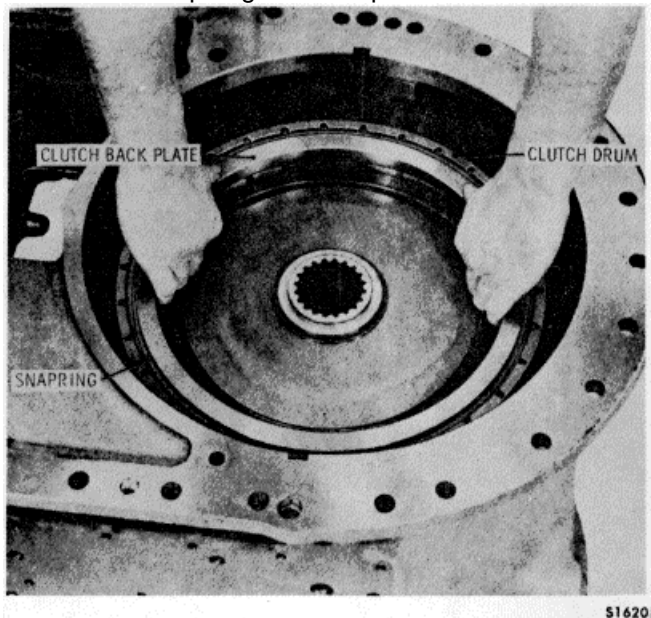

Figure 15-80. Removing Fifth-and-Sixth-Gear Clutch and Drum Assembly
14. Reinstall the fifth-and-sixth-gear clutch backplate (Figure 15-80) and snap ring into the fifth-and-sixth-gear clutch drum. Lift out the drum and related parts by shouldering the backplate against the snap ring. Remove the snap ring and backplate.